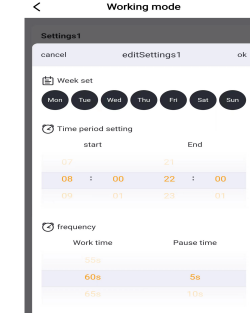

Figure 16
- (3). Set working time and week selection (Figure 16)